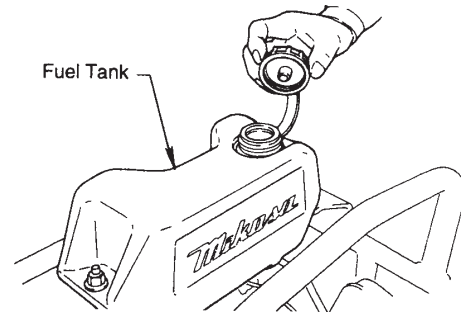

Figure 5. Fuel Tank
1. Check the fuel level in the fuel tank. If the fuel level is low, fill the fuel tank (Figure 5) with clean unleaded gasoline.
2. Close the fuel shut-off valve by moving the fuel cock lever to the **CLOSED** position. See Figure 5.